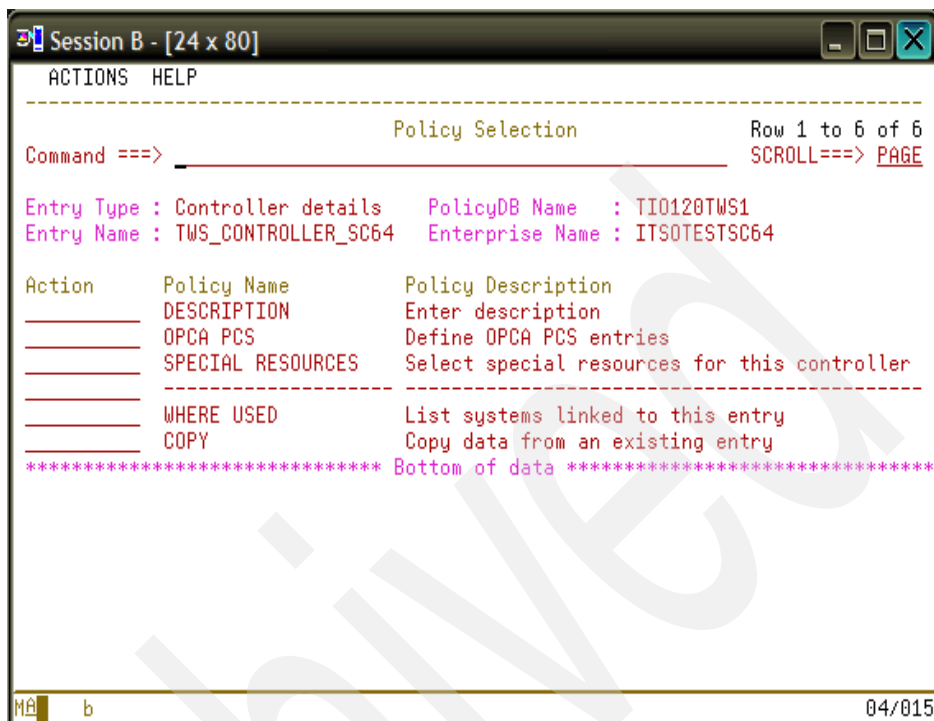

Figure 4-56 Policy Selection panel for OCS entry
4. Press **PF3** to save your data. The Policy Selection panel that is shown in Figure 4-56 on page 162 displays.